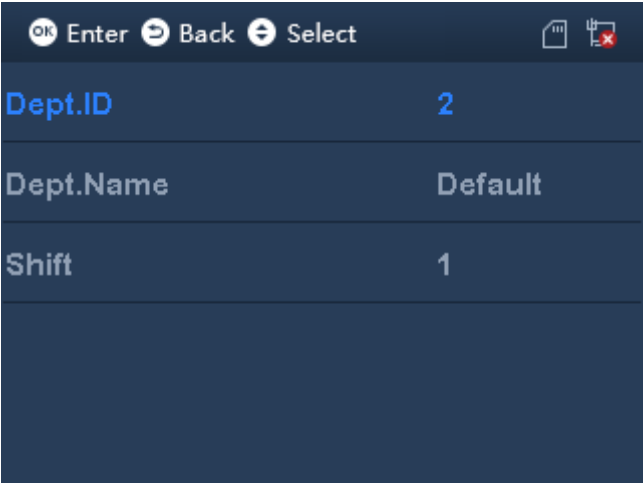

Figure 2-8
Step 1. Select User>New Department, click . See Figure 2-8.